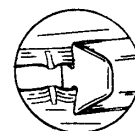

Fig. 3
9. Push the pole savers against the pole end and lock them in position by deforming the tracks with a screw driver (fig 3).